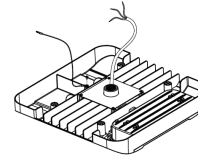

FIGURE 4
- Attach one side of the safety wire to the fixture and the other side to the ceiling to securely hold the fixture in place during installation (Fig. 4).